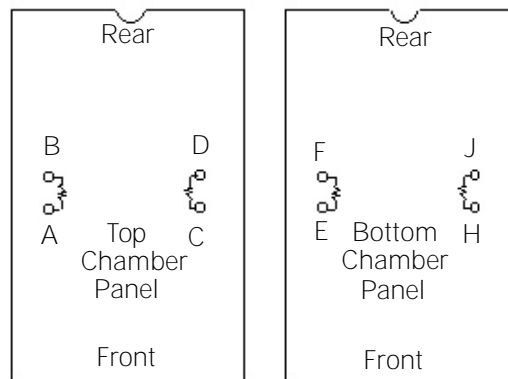

Figure 154: Wiring Reference Diagram (Depicts bottom of heater panels)
removed in Step 3. The wires are labeled with a letter. It is necessary to match the correct wire to the correct terminal. Refer to Figure 154. Ensure that the ground lead is securely attached to the center of the heater panel.
6. Wire the new panel to the machine, ensuring that the ground lead is secure. Refer to Figure 154 for wiring locations.